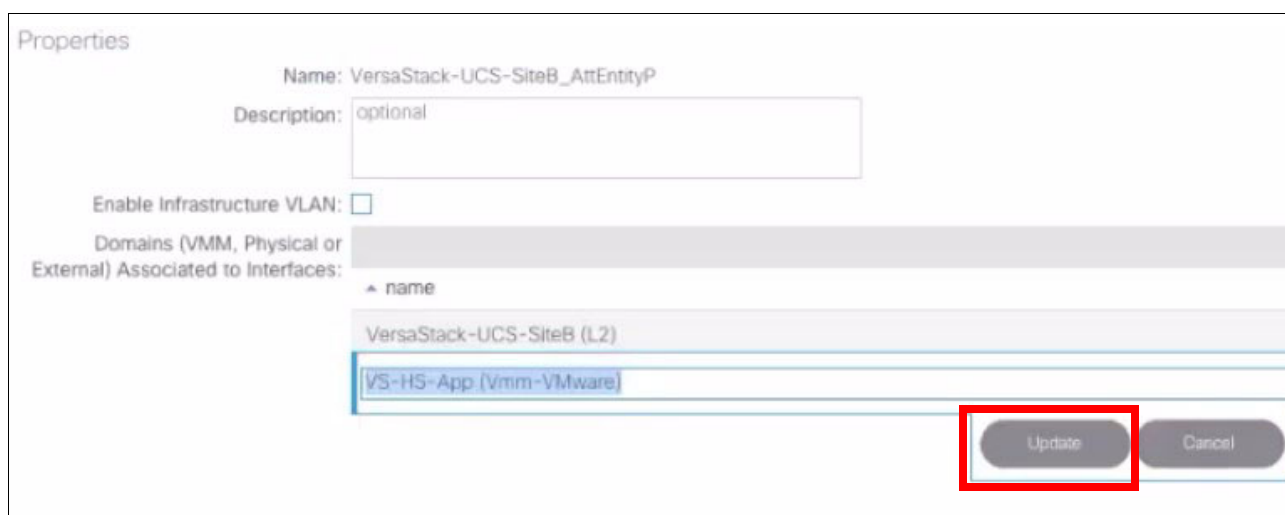

Figure 4-27 Click Update
7. Click **Update** to add the VMM, as shown in Figure 4-27.